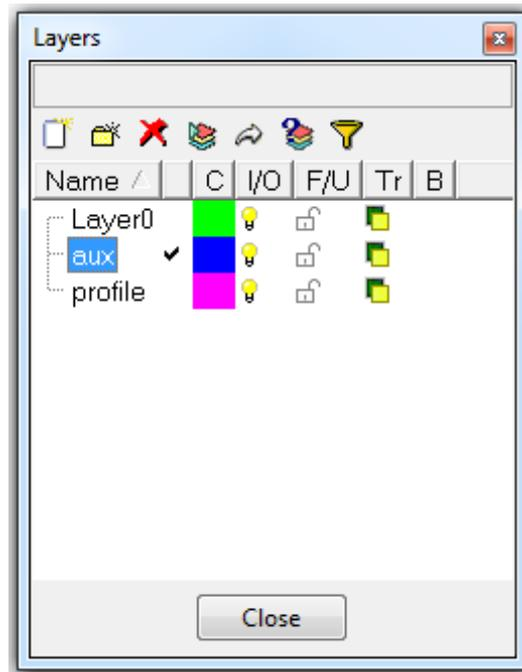

Figure 1. The Layers window
- 2 . Create two new layers called "aux" and "profile." Enter the name of each layer in the **Layers** window (Figure 1) and click **New**.